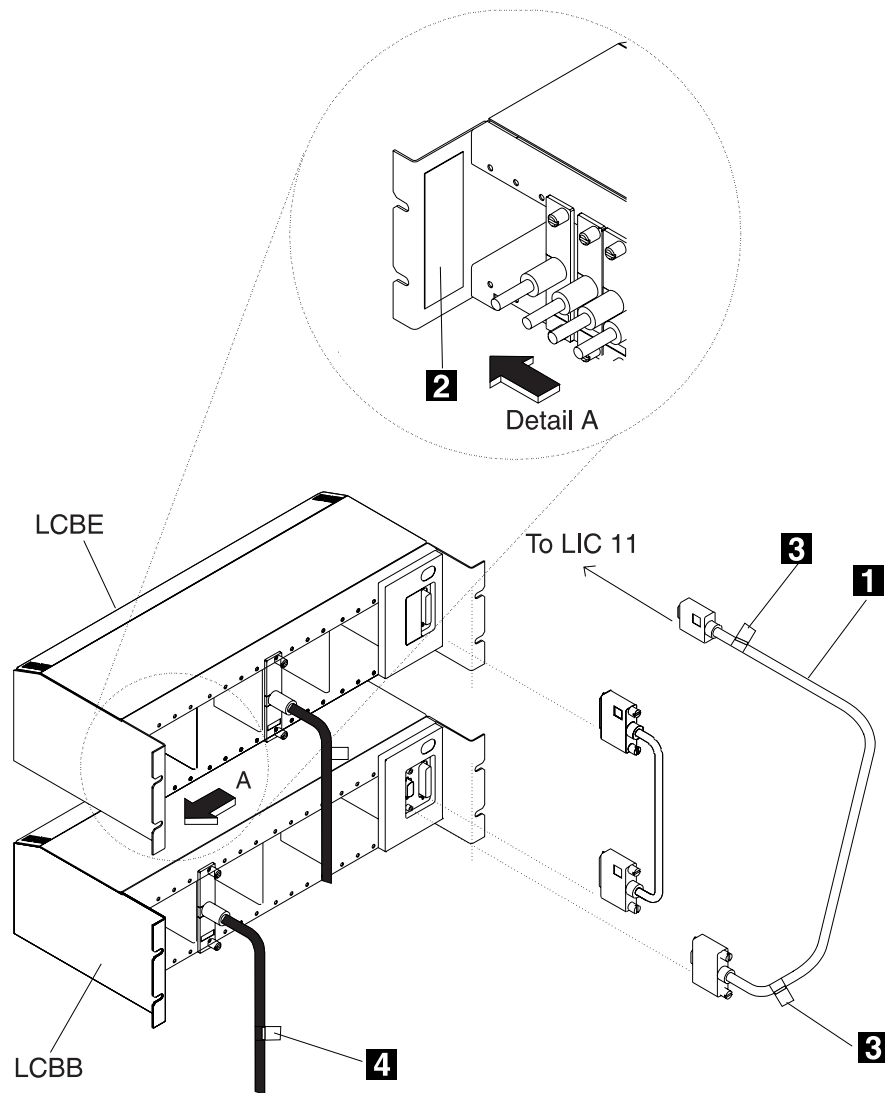

Figure C-10. LCB and LCBE Connections (Installed with ARC Assembly A)
- Step 3** Put the label on the inner left side of the LCB (see **2** in Detail A of Figure C-10 on page C-15).
Step 11 Put two identical labels at both ends of the cable (see the two **3**s in Figure C-10 on page C-15).
Step 12 Connect the LIC11 cable to the LCB base and tighten the cable plug retaining screws (see “Unplugging or Plugging LIC Cables” on page C-7 for details, and also **1** in Figure C-10 on page C-15).
Step 5 Put ARC labels at both end of the cable (see **4** in Figure C-10 on page C-15). Remove any old labels first.